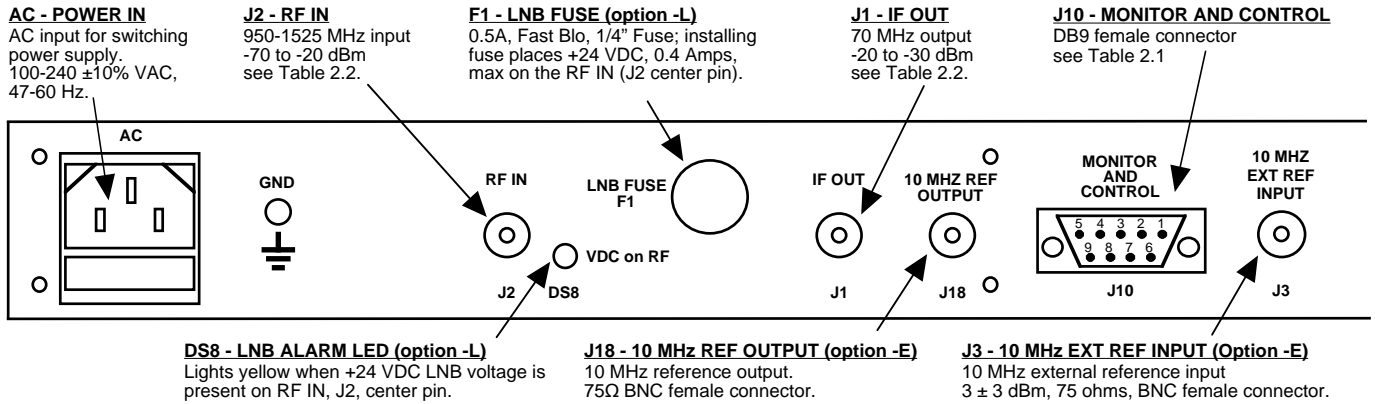

FIGURE 2.2 2016-03 Rear Panel I/Os
2.2 Rear Panel Input/Output Signals - Figure 2.2 shows the input and output connectors on the rear panel.
1. Connect a -20 dBm to -70 dBm signal to RF IN, J2 (Figure 2.2)